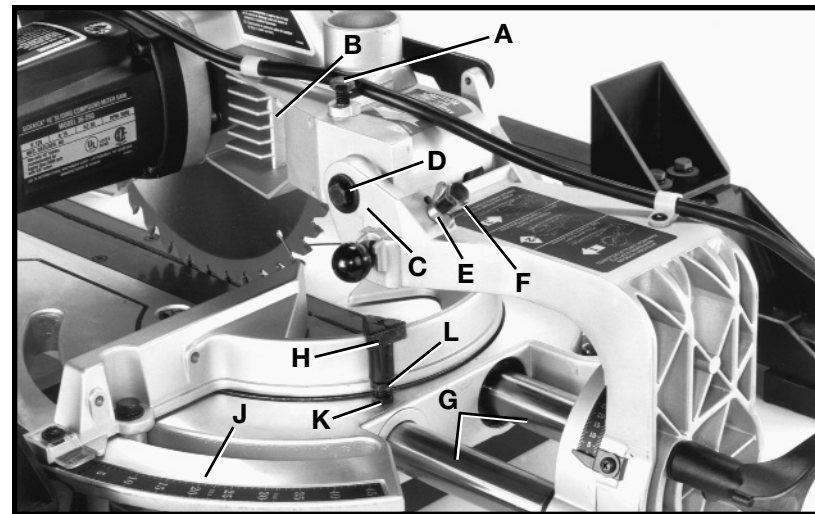

Fig. 50
1. Turn adjusting screw (A) Fig. 50, clockwise to increase or counterclockwise to decrease the spring tension.
When it becomes necessary to adjust the sliding fit proceed as follows: The fit between the upper arm (B) Fig. 50, and the trunnion (C) can be adjusted by tightening nut (D). Correct adjustment is when a good, snug sliding fit is obtained between these two parts. This adjustment should not be too tight that it restricts the sliding movement of the upper arm (B), or too loose that it affects the accuracy of the saw cut.
The downward travel of the saw blade was adjusted at the factory to prevent the saw blade from contacting any metal surfaces of the machine. When an adjustment becomes necessary to limit the downward travel of the saw blade, proceed as follows: Loosen wing nut (E) Fig. 50, and make adjustment by turning adjusting screw (F). Tighten wing nut (E) after adjustment is completed. (for operations such as dado cutting see section of manual on “**DADO CUTTING**”)
The cuttinghead guide rods (G) Fig. 50, can be locked in place in order to use the saw as a conventional miter saw (using the saw as a chop saw instead of a sliding saw) by tightening lock knob (H). When using the saw as a chop saw, the cuttinghead should be all the way to the rear position before locking in place.
To adjust the sliding fit between guide rods (G) Fig. 50, and table assembly (J), remove lock knob (H) and loosen locknut (K). With wrenches provided, hold locknut (K) while turning adjusting nut (L) clockwise to increase or counterclockwise to decrease the sliding action of the guide rods (G). This adjustment should not be too tight that it restricts the sliding movement of the rods or too loose that it affects the accuracy of the saw cut. When correct adjustment is made, hold adjusting nut (L) and tighten locknut (K) with wrenches provided. Replace lock knob (H). Periodically lubricate guide rods (G) using a light oil or spray lubricant to keep the guide rods (G) sliding smoothly.